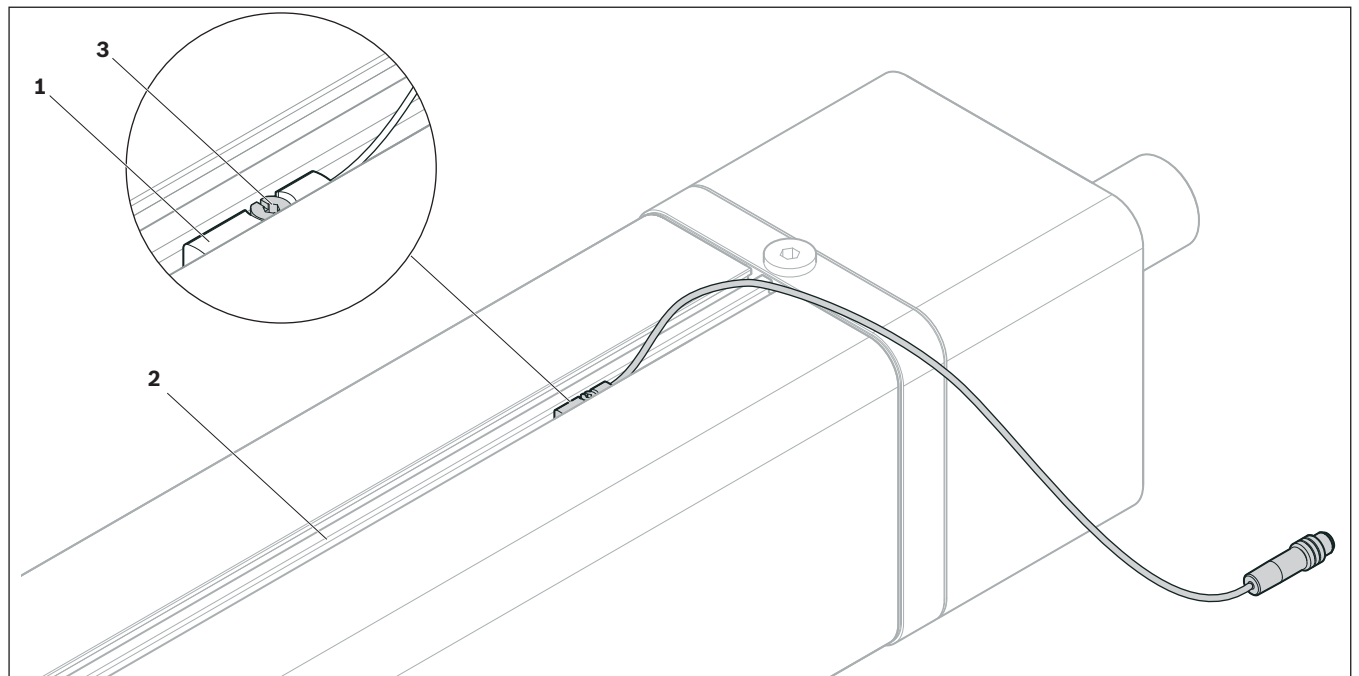

Fig. 25: Mounting the switches
1. Insert the switches (magnetic field sensors) **(1)** in the T-slot of the housing **(2)** in such a way that the clamping screw **(3)** points outwards  $\Rightarrow$  Fig. 25.
1. Fix by turning the clamping screw **(1)** → Fig. 25 on page 25. Tighten the screw by hand and check the switch is secure.